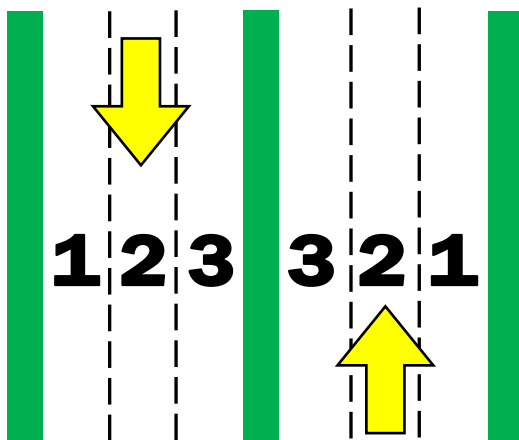

Figure 6.1
- I. Lanes must be identified in a uniform fashion to ensure effective communications. Figure 6.1 shows the proper lane assignments. Lane 1 should always start to the immediate right.